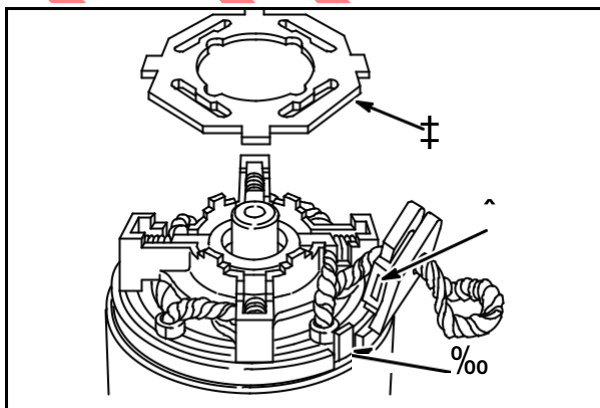

Fig. 46
Install brush retainer plate (7), **Fig. 46**.